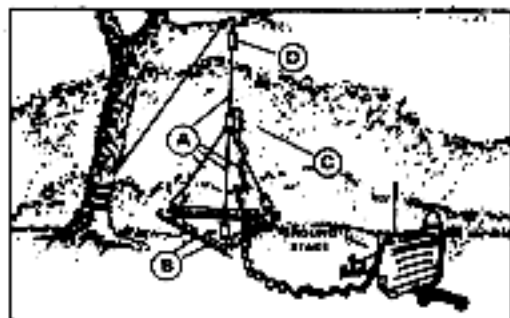

Figure 7-4. Expedient 292-type antenna
c. Expedient 292 type antenna (jungle antenna). The expedient 292 type antenna was developed for use in the jungle and if used properly, will increase your ability to communicate. You can fabricate a complete expedient 292 antenna using WD-1 (or similar wire) and other readily available materials. Determine the 1/4 wavelength of your operating frequency and cut 4 elements (1 radiating and 3 ground planes) as in figure 7-4(a). Cut 3 spacing sticks figure 7-4(b) the same length. Place the ends of the sticks together to form a triangle and tie the ends with wire, tape or rope. Attach an insulator to each corner. Attach a ground plane wire to each insulator. Bring the other ends of the ground plane wires together, attach them to an insulator figure 7-4(c), and tie securely. Strip about 3 inches of insulation from each wire and twist them together. Tie one end of the radiating element to the other side of insulator C, and the other end to another insulator figure 7-4(d). Cut enough WD-1 wire to reach from the proposed location of the antenna to the radio set. Attach the radiating element to one of these wires and then to the long whip attached to the radio. Attach the other to the ground plane wires and to the radio set case (ground). Hoist the antenna to the desired height and attempt communications.